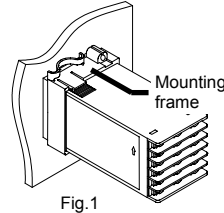

Fig.1
4. Push the mounting frame forward until the frame is firmly secured to the panel. (Fig.1)